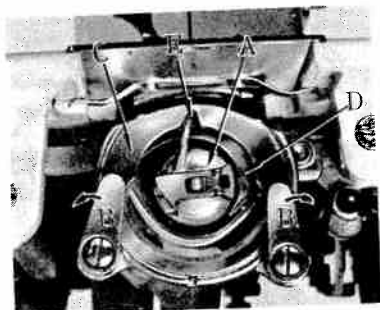

Fig. 39
2. Remove bobbin case (A) Fig. 39.
3. Turn the two shuttle race cover clamps (B) outward and remove the shuttle race cover (C) and shuttle hook. (D)